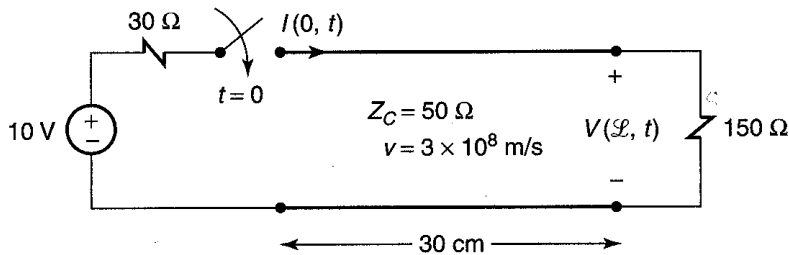

Figure P6.2.9 Problem 6.2.9.
6.2.9. Sketch the load voltage, $V(\mathcal{L}, t)$, and the input current to the line, $I(0, t)$, for the problem depicted in Fig. P6.2.9 for $0 < t < 10$ ns. What should these plots converge to in the steady state? [$V(\mathcal{L}, t)$, $0 < t < 1$ ns, 0 V, 1 ns $< t < 3$ ns, 9.375 V, 3 ns $< t < 5$ ns, 8.203 V, 5 ns $< t < 7$ ns, 8.35 V, 7 ns $< t < 9$ ns, 8.331 V, 9 ns $< t < 11$ ns, 8.334 V, steady state 8.333 V, and $I(0, t)$, $0 < t < 2$ ns, 0.125 A, 2 ns $< t < 4$ ns, 0.047 A, 4 ns $< t < 6$ ns, 0.057 A, 6 ns $< t < 8$ ns, 0.055 A, 8 ns $< t < 10$ ns, 0.056 A, steady state 0.056 A]